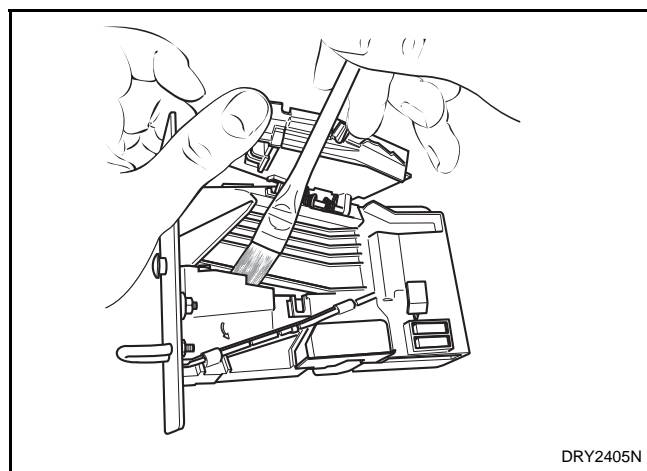

Figure 10
d. Clean the coin path with a soft brush and wipe exposed surfaces with an alcohol moistened cloth. Refer to *Figure 10*.